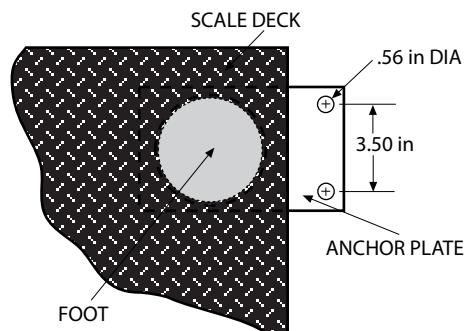

Figure 2-4. Optional Anchor Plate Installation
3. Lower the scale back to the floor, and position the plates as shown in Figure 2-4 so that the boltdown holes are accessible from above.